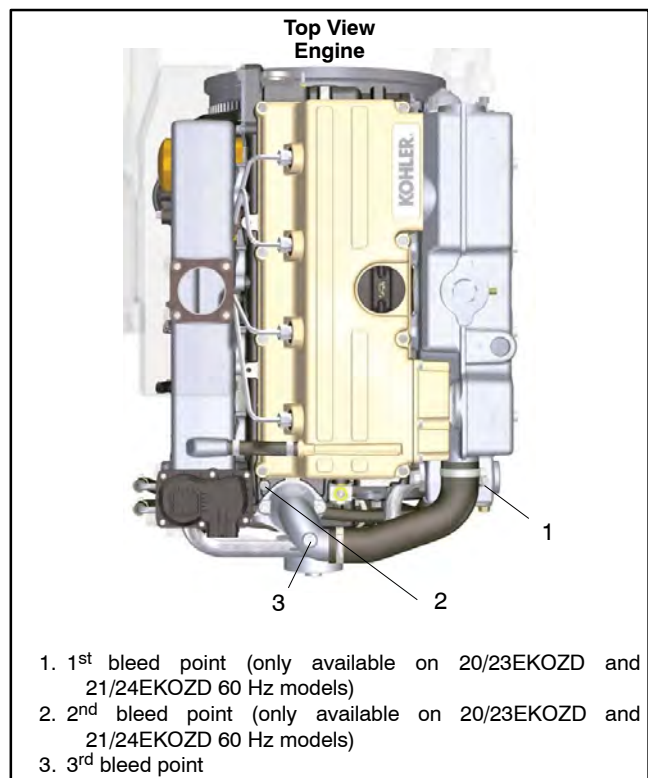

Figure 6-16 Bleed Point Locations
2. Slowly fill the coolant system until observing coolant at the first bleed point (lowest port) with the plug removed. See Figure 6-16.
4. Slowly fill the coolant system until observing coolant at the second bleed point with the plug removed. See Figure 6-16.
6. Slowly fill the coolant system until observing coolant at the third bleed point (highest port) with the plug removed. See Figure 6-16.